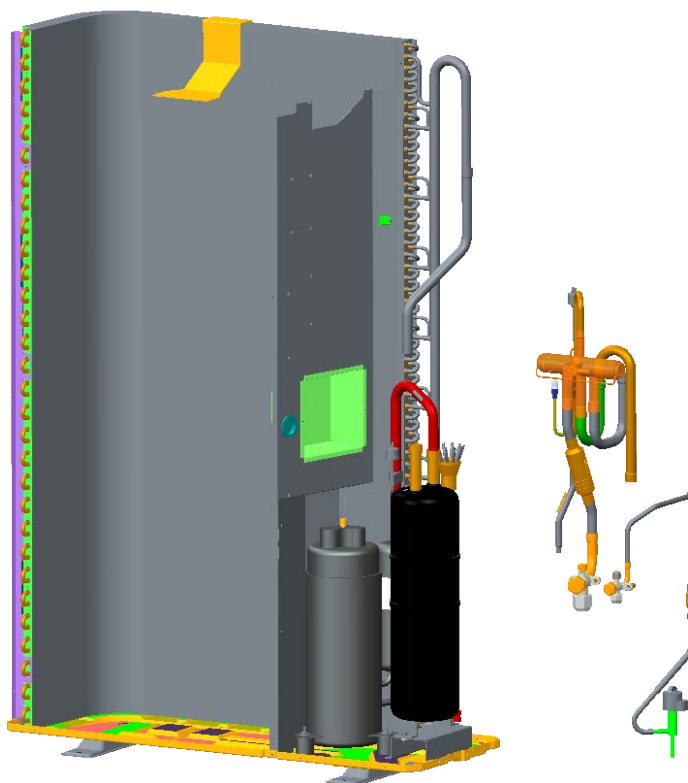

Fig.12
①. **Remove gas valve**
- Welding out the pipe connected to the gas valve [See Fig.12]
②. **Remove liquid valve**
- Welding out the pipe connected to the liquid valve [See Fig.12]